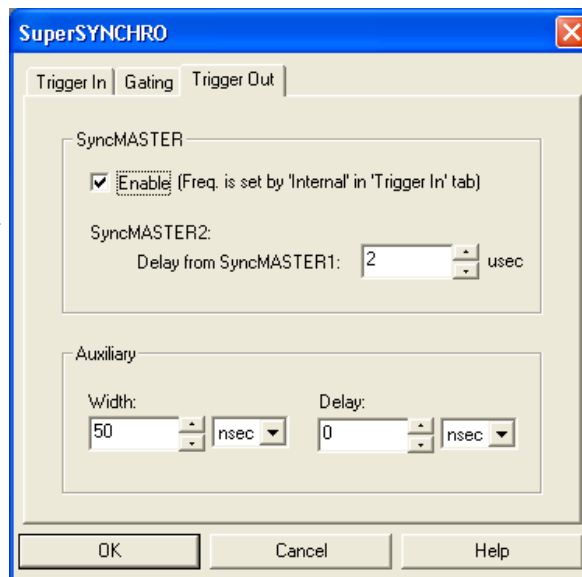

Figure 190. Trigger Out tab page
10. The functions on the **Trigger Out** tab page (Figure 190) allow you to enable the SyncMASTER trigger output from the SyncMASTER1 and SyncMASTER2 connectors on the **AUX I/O** cable and set up the Aux. Out signal at the **AUX OUT** connector on the rear of the PI-MAX3.